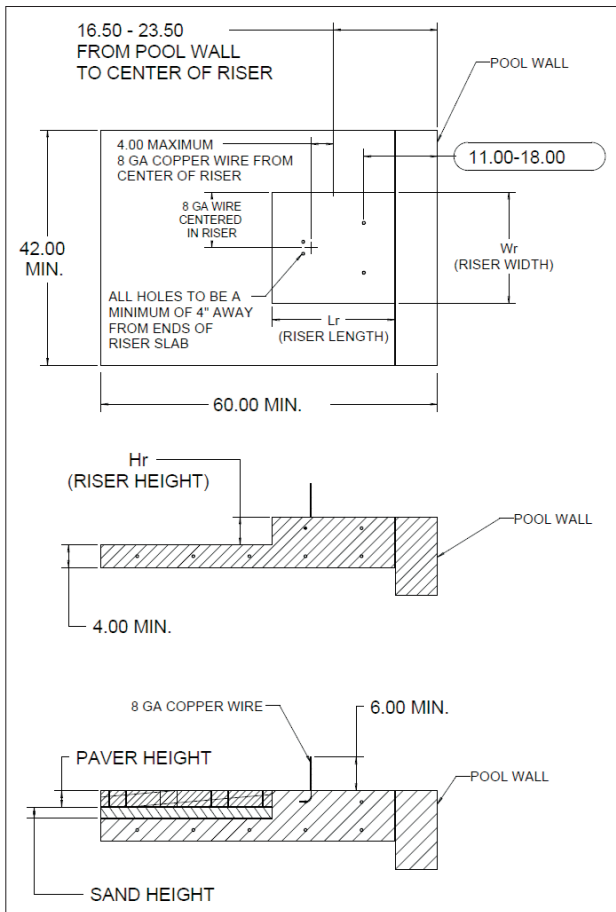

Fig 7: Concrete requirements for Paver & Sand App
- 2 The minimum deck requirements are similar to those on page 7, but this application requires a Riser in addition to the footing, Fig. 7. Remove the pavers & sand from the location chosen for the lift and cut out the underlying foundation. Replace with a new slab with a Riser incorporated on top of it, Fig. 7. Use Fig. 8 to determine the correct size of the Riser. The new slab needs to be reinforced with rebar and adhered with epoxy into the remaining existing deck, Fig. 9. Simpson SET epoxy is recommended or equivalent for installation.
- 3 Due to Local Electrical Code, it maybe necessary to Bond the Mounting Base to the pools Bonding Grid with 8ga Copper Wire. See Fig. 7 for location. Check your Local Electrical Code for proper Bonding.
- 4 The proper location to install the lift is centered on the riser, use Fig. 7 and the Arm & Base assembly as a template. Make sure that the lift is an appropriate distance away from the pool wall. **DO NOT** lift the assembly from the actuator.